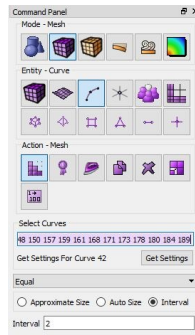

Figure 18: Interval Curve
- (2) Curve sides interval 2. (Figure.18)